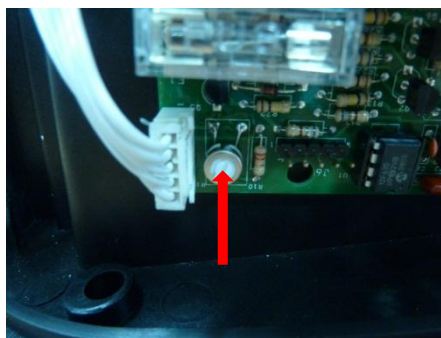

Figure 5
2. The dryer runs continuously – decrease the sensitivity of the activation sensor by turning the white potentiometer on the board located inside the main body of the dryer (see Figure 5) anti clockwise with a pot adjustor/ small screw driver. Adjust to suit the level of sensitivity required.